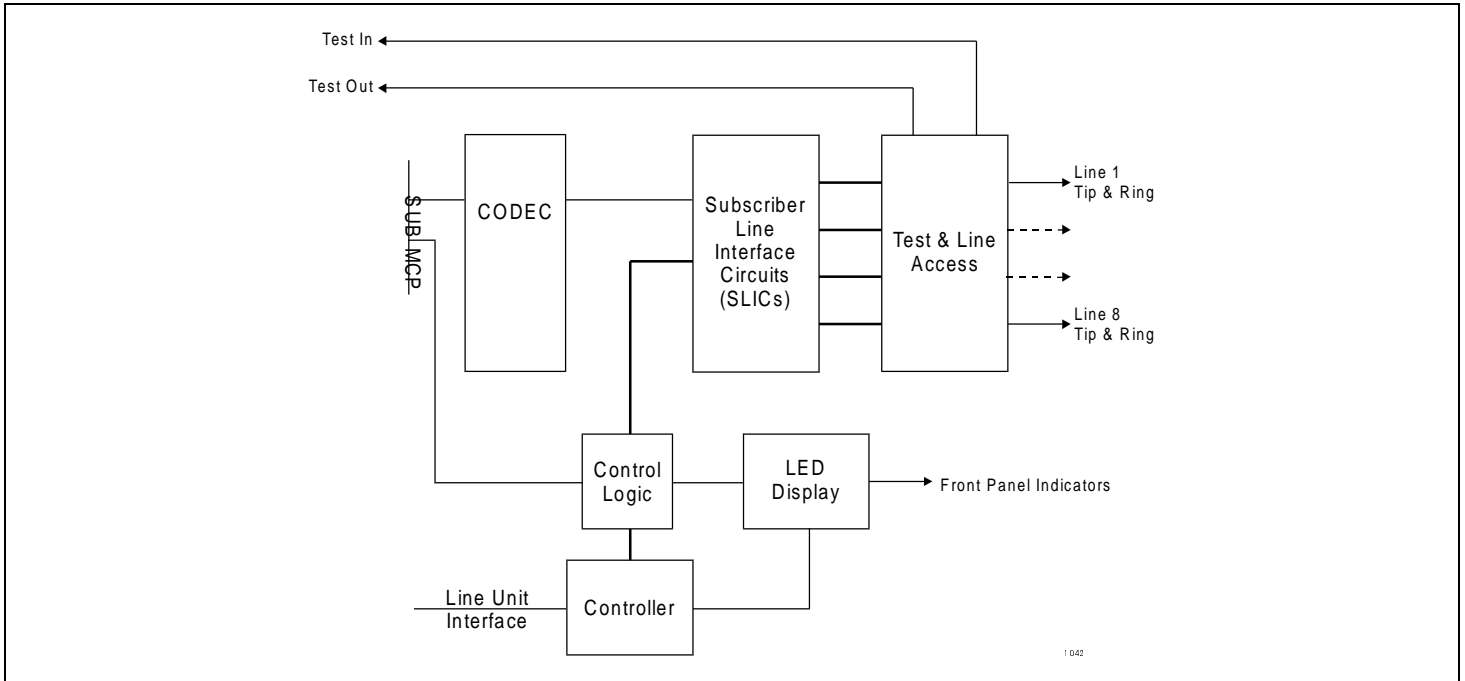

Figure 3. FLC-704 Block Diagram.
6.02 A block diagram of the FLC-704 Channel Unit is shown in Figure 3. One 8-Channel COT Channel Card supports eight POTS interfaces.